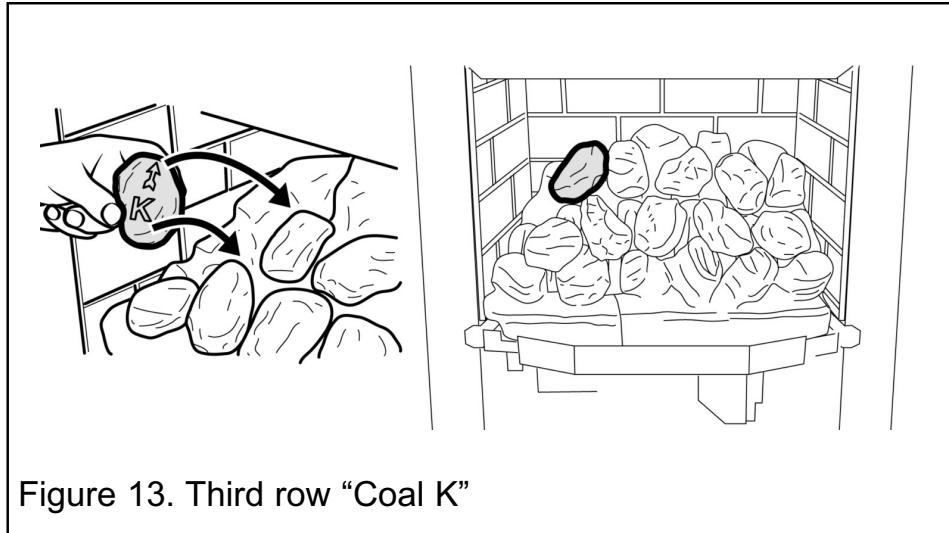

Figure 13. Third row "Coal K"
**15.** Hold coal 'K' upright with the arrow pointing to the top. Locate coal 'K' as shown in figure 13.